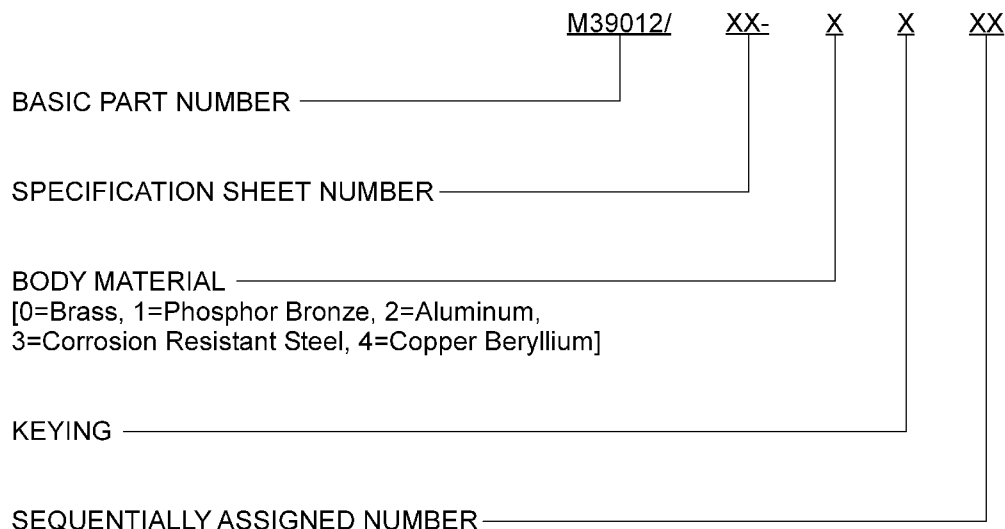

Figure 12. MIL-PRF-39012 Part Number Breakdown
56. **Selection.** The selection of connectors is determined by the system requirements. Consult applicable drawings and diagrams to determine the required part. The applicable military specifications with connector description and frequency applications are shown in Figures 12 and Table 13.